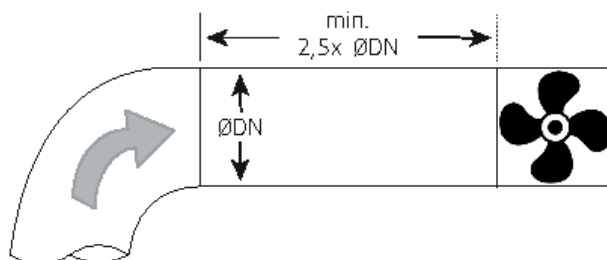

figure 5:Installation
- ✍ Directly before and after the fan you have to install straight ducts. Please pay attention to the following figure (fig. 5).